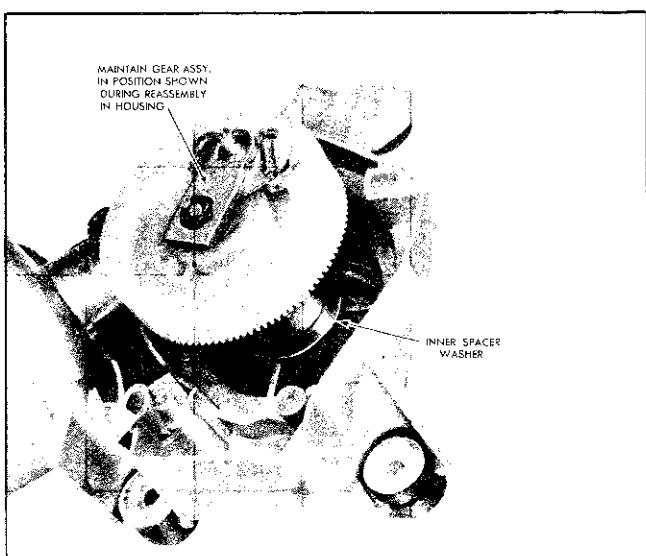

Fig. 12-36 Removing Drive Gear—Pontiac
2. Slide gear out of housing (Fig. 12-36).
6. Assemble inner spacer washer over gear shaft and assemble gear mechanism in housing so that the pawls are approximately 180° away from the latch assembly (Fig. 12-36).